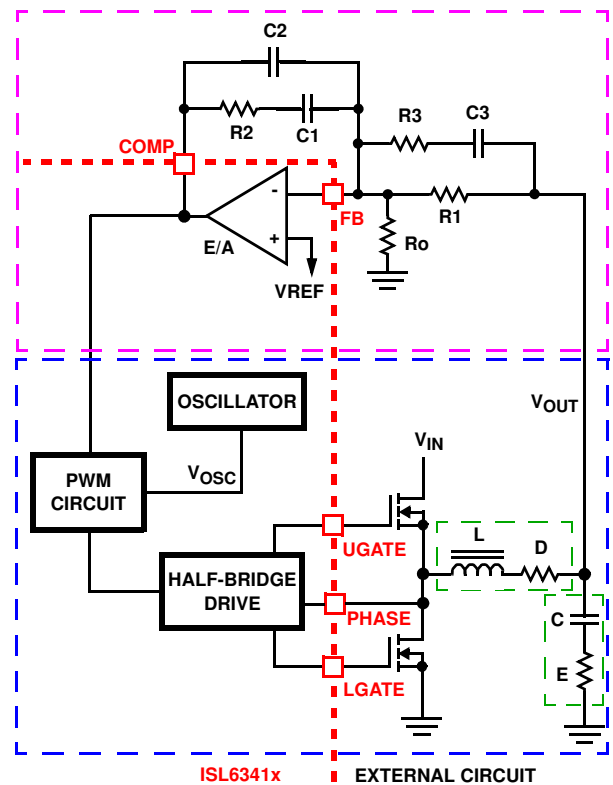

FIGURE 13. VOLTAGE-MODE BUCK CONVERTER COMPENSATION DESIGN
This section highlights the design consideration for a voltage-mode controller requiring external compensation. To address a broad range of applications, a type-3 feedback network is recommended, as shown in the top part of Figure 13.
Figure 13 also highlights the voltage-mode control loop for a synchronous-rectified buck converter, applicable to the ISL6341x circuit. The output voltage (V_{OUT}) is regulated to the reference voltage, V_{REF} . The error amplifier output ($COMP$ pin voltage) is compared with the oscillator (OSC) modified sawtooth wave to provide a pulse-width modulated wave with an amplitude of V_{IN} at the $PHASE$ node. The PWM wave is smoothed by the output filter (L and C). The output filter capacitor bank's equivalent series resistance is represented by the series resistor E .
The compensation network consists of the error amplifier (internal to the ISL6341x) and the external R_1 to R_3 , C_1 to C_3 components. The goal of the compensation network is to provide a closed loop transfer function with high 0dB crossing frequency (F_0 ; typically 0.1 to 0.3 of f_{SW}) and adequate phase margin (better than 45°). Phase margin is the difference between the closed loop phase at F_{0dB} and 180°. The equations that follow relate the compensation network's poles, zeros and gain to the components (R_1 , R_2 , R_3 , C_1 , C_2 , and C_3) in Figure 13. Use the following guidelines for locating the poles and zeros of the compensation network:
4. Select a value for R_1 (1kΩ to 5kΩ, typically). Calculate the value for R_2 for desired converter bandwidth (F_0). If setting the output voltage via an offset resistor connected to the FB pin (R_O in Figure 13), the design procedure can be followed as presented in Equation 4.